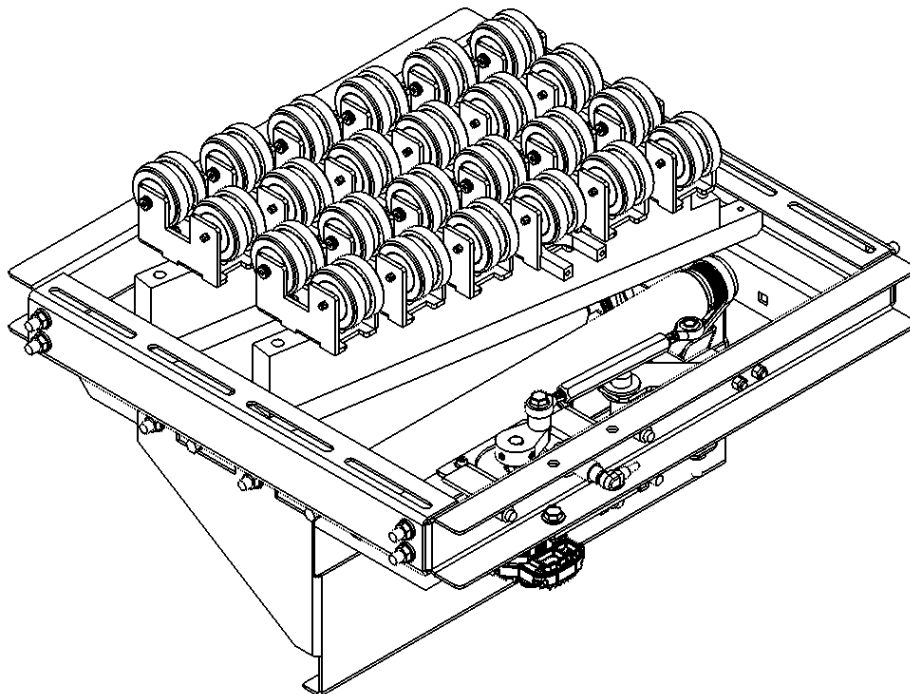

Figure 24: Mounting bars angled for installing O-rings
7. Align the mounting bars at an angle so the new O-ring bands can be installed. Put six new bands through each mounting bar. Refer to Figure 24 that illustrates the position of the mounting bars to install new O-ring bands.